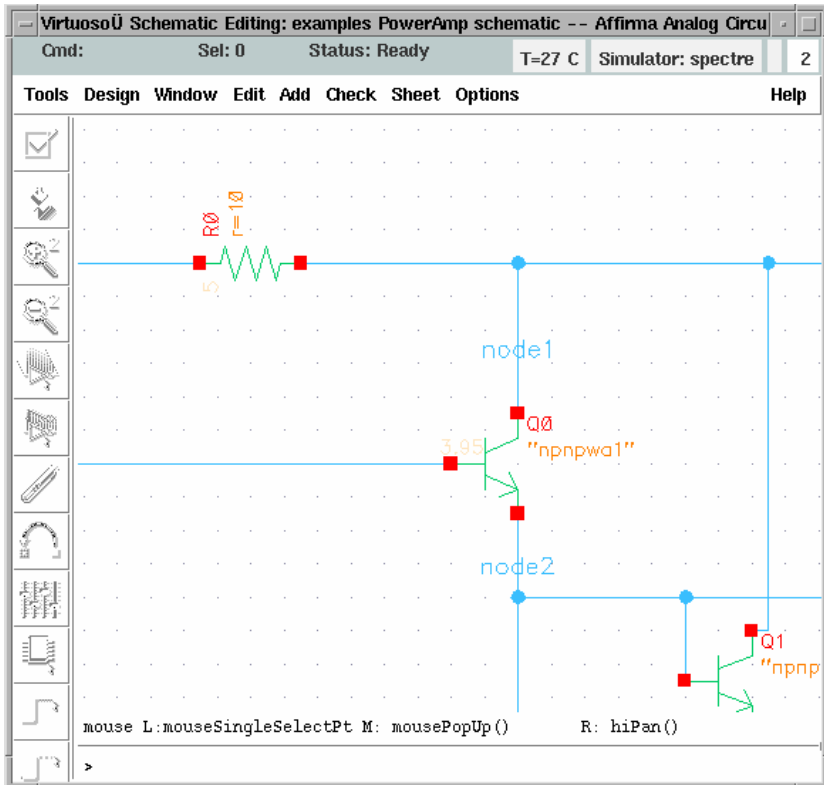

Figure 3-8. Q0 with Node Labels
9. Click the wire connecting to the emitter of Q0 to add another node, *node2*, to the ADS *Edit OutputPlan* dialog box for DC Simulation. The Q0 transistor in the upper-left region of the Cadence schematic window should now appear similar to Figure 3-8.